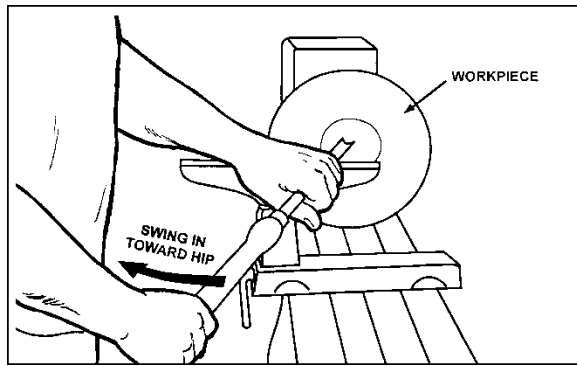

Figure 28
and pointed toward the four o'clock position, as shown in Figure 28.
6. Use the left hand to control cutting edge of gouge, while right hand swings tool handle around toward your body (Figure 28). The flute should start out facing top of workpiece, and rotate upward as it moves deeper into the bowl to maintain a clean even curve. As the tool goes deeper into the bowl, progressively work out toward the rim. It may be necessary to turn the tool support into the piece as you get deeper into the bowl.